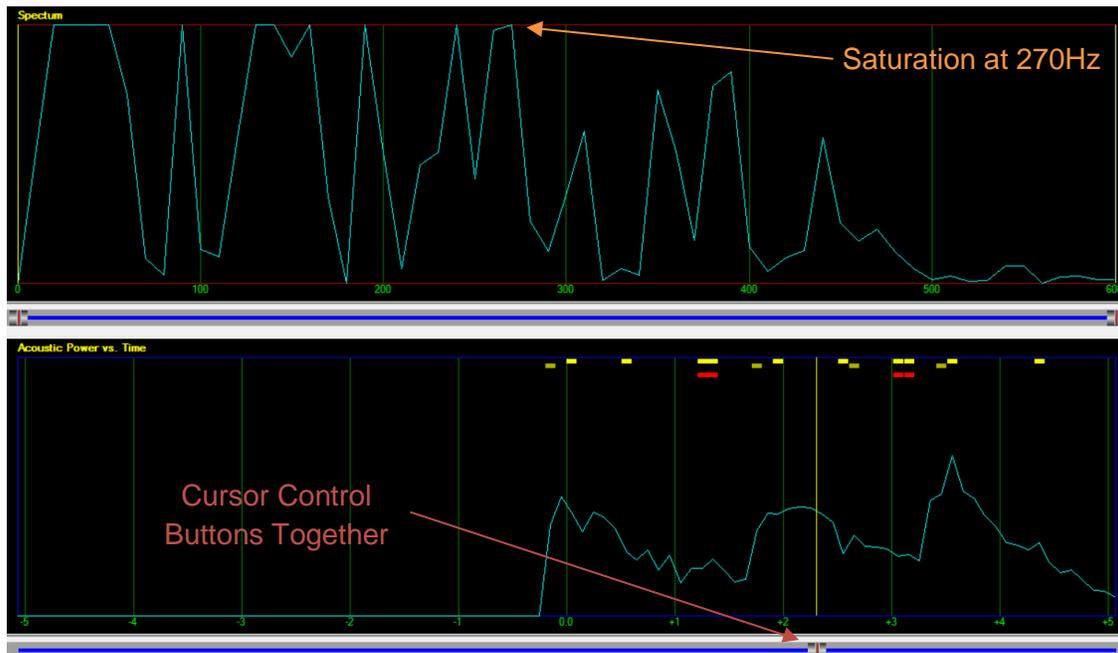

Figure 8 – Intrusion signal with saturation up to 270Hz
**Examples:** Figure 8 displays signal with saturation up to ~270Hz. This signal is too large. **Sensitivity** should be decreased to bring the point of common saturation to the target value.